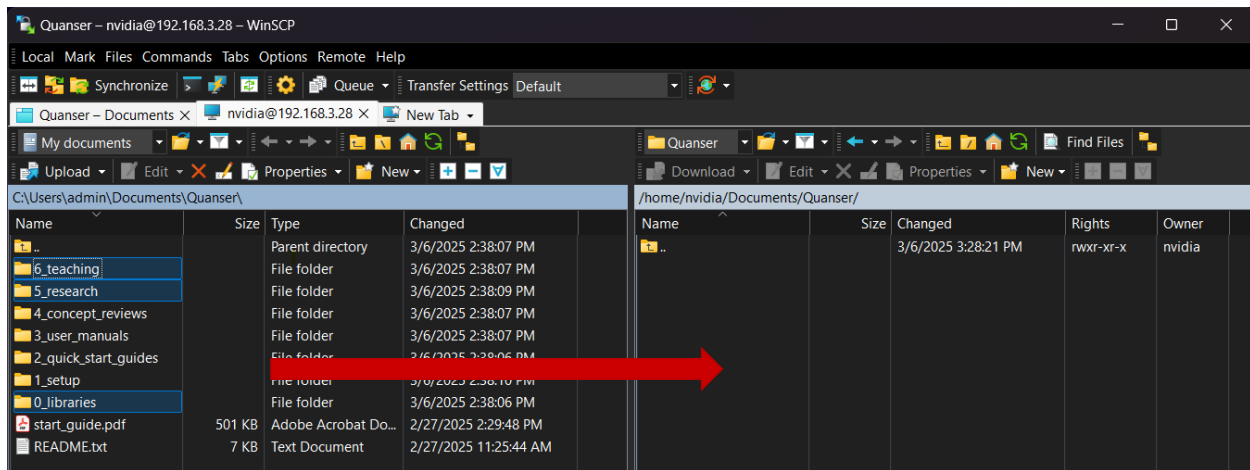

Figure 4. Transferring files to QCar
1. Make a directory on the QCar for Quanser resources where files will be transferred to and from. We recommend creating a folder called Quanser under Documents. The following directory should now exist: **/home/nvidia/Documents/Quanser**. To connect to the QCar2 and create this directory, we recommend using WinSCP, as shown in figure 4. (see the **User Manual - Connectivity** for how to remotely connect to the QCar).
2. Using WinSCP, on your PC side, navigate to **Documents/Quanser**. On the QCar 2 side, navigate to your new *Quanser* folder. Your WinSCP window should look like figure 4. From your PC side, copy/drag the **o_libraries**, **5_research** and **6_teaching** folders over to your new Quanser folder in the QCar2.